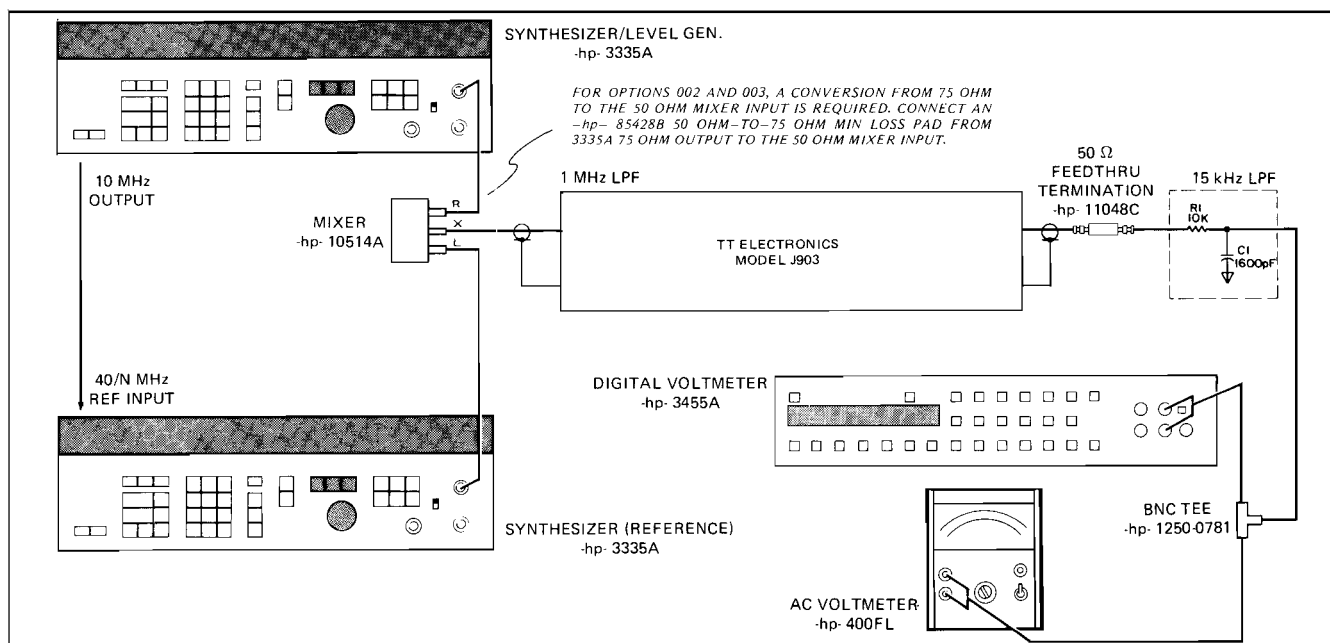

Figure 4-2. Integrated Phase Noise.
4-14. This performance test ensures the 3335A meets the integrated phase noise specifications of Table 1-1. The specifications are for a 30 kHz band, excluding ± 1 Hz, centered on the carrier. The test set-up uses another 3335A in addition to the one under test as a reference. Any synthesizer with a noise floor equivalent to the 3335A can be used as a reference. (See required characteristics, Table 1-3). The reference and the tested signal are mixed and the difference signal is applied to a wideband ac voltmeter and a dc digital voltmeter through two filters (see Figure 4-2). The 1 MHz filter used in the test is available commercially (see Table 1-3). The 15 kHz filter must be constructed.
a. Connect the test set-up shown in Figure 4-2.